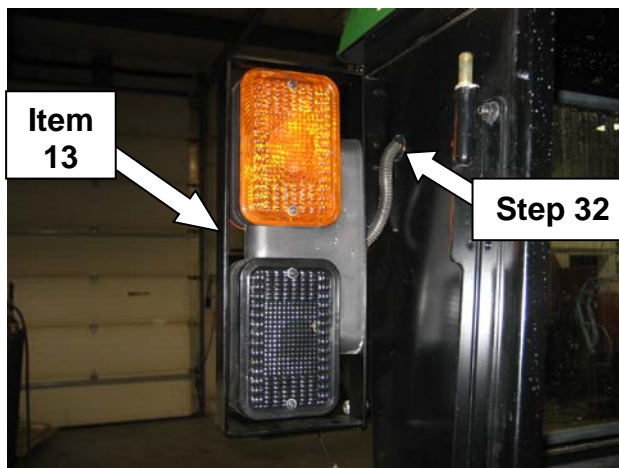

Figure 12
30. Mount RH flasher light to RH flasher mount bracket (13) (Figure 12). Secure using;
- (2) 5/16" lock washers (T)
31. Secure RH flasher light with bracket to RH rear side of cab (Figure 12) by using;
- (2) 5/16" flange nuts (P)
32. Route wires from flasher light thru universal grommet to the inside of cab (Figure 12).
33. Locate flasher wire extension harness (18). Tractors with dual flasher lights, match and reconnect all four wire colors from dual flasher lights to the original wire connections. Note; Tractors with single flasher lights, match wire colors, using three of the four wires, from single flasher lights to the original wire connections (**One of the dark green wires will not be used**).